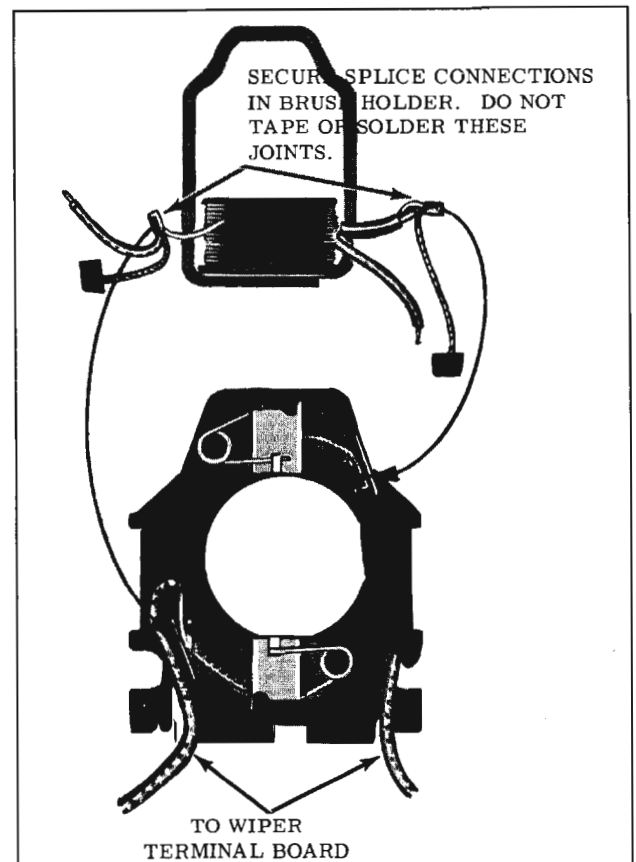

Fig. 14-171 Splice Connections (Single Speed)
- d. Poor solder joints at brush pigtail connections. (Fig. 14-171)